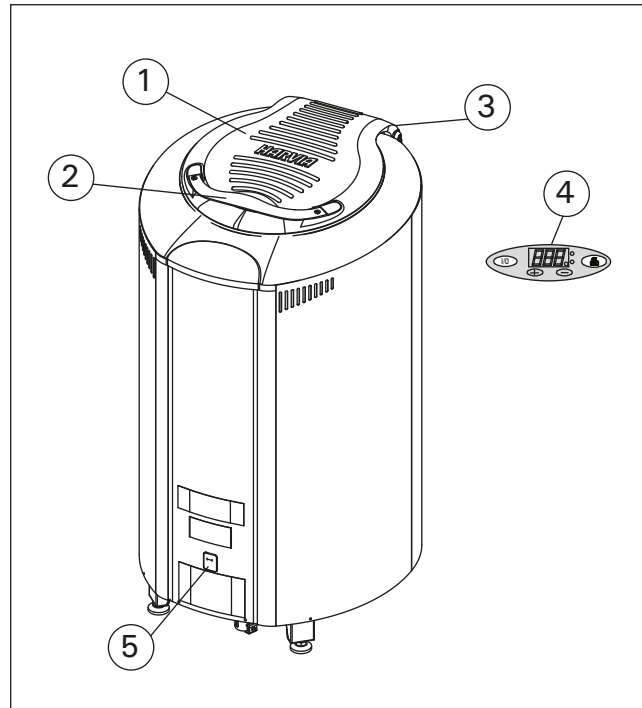

Figure 1. Heater parts
2. Handle to safely open and close the cover (fig. 1).
The I/O button is used to switch the heater heating elements on and off. For this to happen, the electric switch must be switched on (see figure 1). The indicator light burns under the I/O button to indicate standby mode.
The electronics of the heater are switched on and off using the small electric switch with a swing mechanism I in front of the heater (fig. 1). When the switch is in the **ON** position, the indicator light under the I/O button burns as an indication of the standby mode. In standby mode, the heater heating elements do not carry current. The person installing the heater sets it in standby mode when making the electrical connections.
When the heater cover 1 (fig. 1) is opened, the air flowing through the hot stones and the heating elements begins to heat up the room. To ensure that